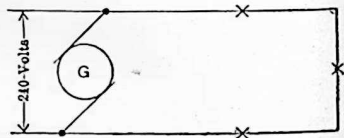

FIG. 28. Three arc lamps in series across a generator.
**Problem 3.** What resistance must each lamp have in Fig. 28 in order to allow a current of 16 amperes to flow in each?